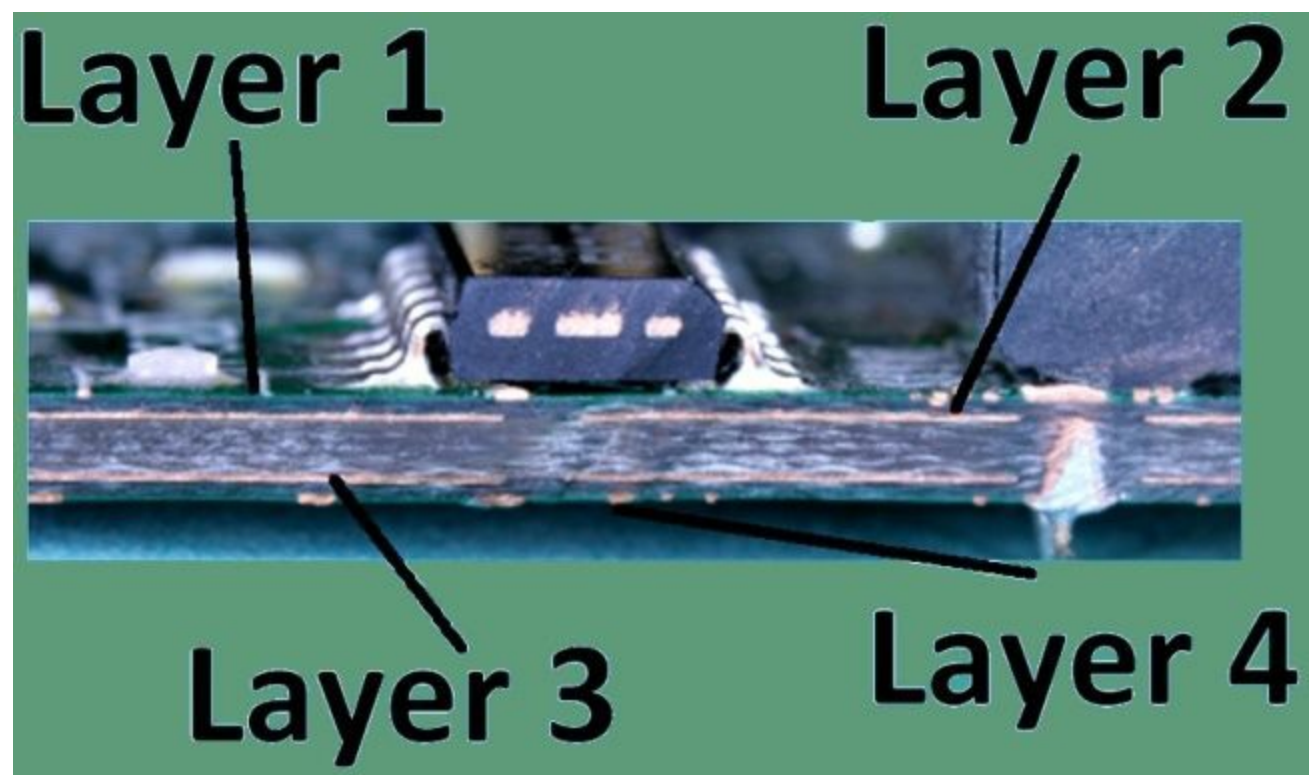

Figure 5-10
Multilayer boards are typically laid out in specific sequences. The four-layer board seen in **Figure 5-10** has the signal layers on the top and bottom of the substrate; sandwiched between these are the power and ground layers. A seven layer board might have a signal layer first, then a power layer, another signal layer, a spacer layer, a third signal layer, a ground plane, and finally the fourth signal layer. The order of layout affects the sensitivity of the board to electrical noise. Not every pin on the integrated circuit (IC) needs to be connected to the ground or power plane. An area void of copper is left wherever signal pins pass through ground and power levels.